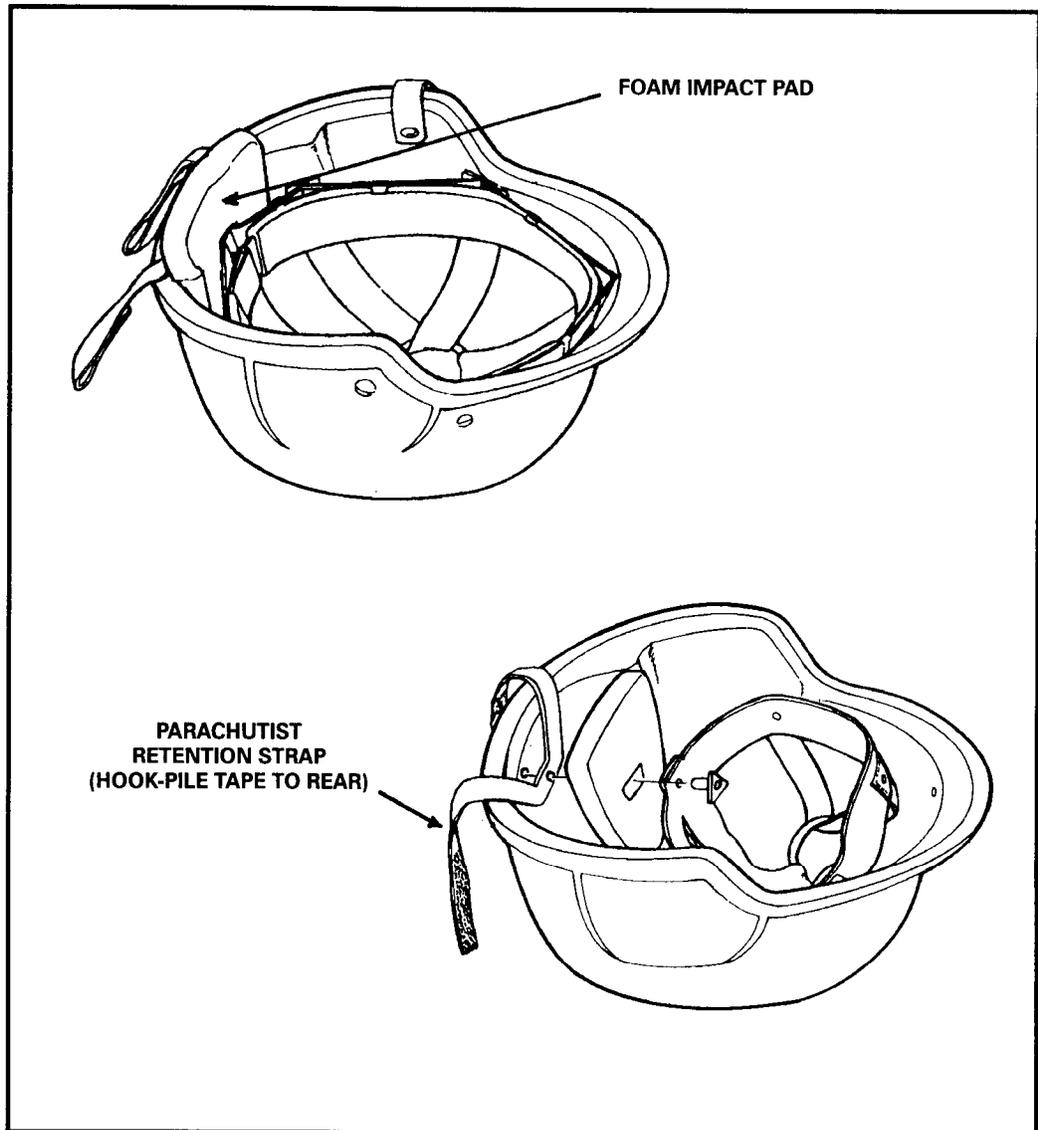

Figure 2-7. PASGT helmet with parachutist retention strap and foam impact pad.
a. Parachutist Helmet Modifications. The helmet is modified for airborne operations by adding a parachutist retention strap and a foam impact pad (Figure 2-7, page 2-18). These items provide maximum safety and stability. Also, the PIL is inserted to further protect the jumper's head during PLFs.